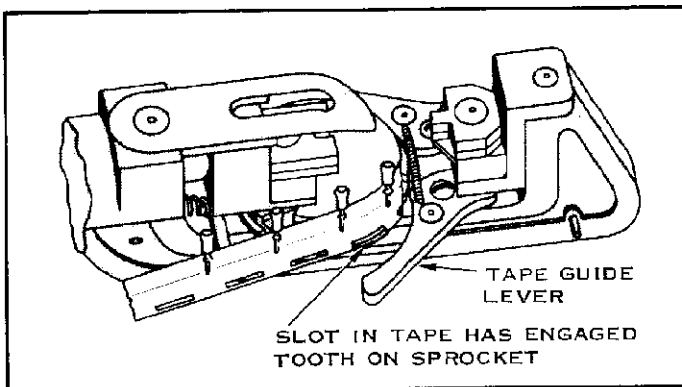

FIGURE 4
5. Engage the first slot in the tape with a Sprocket Tooth and depress the Tape Guide Levers. Figure 4.